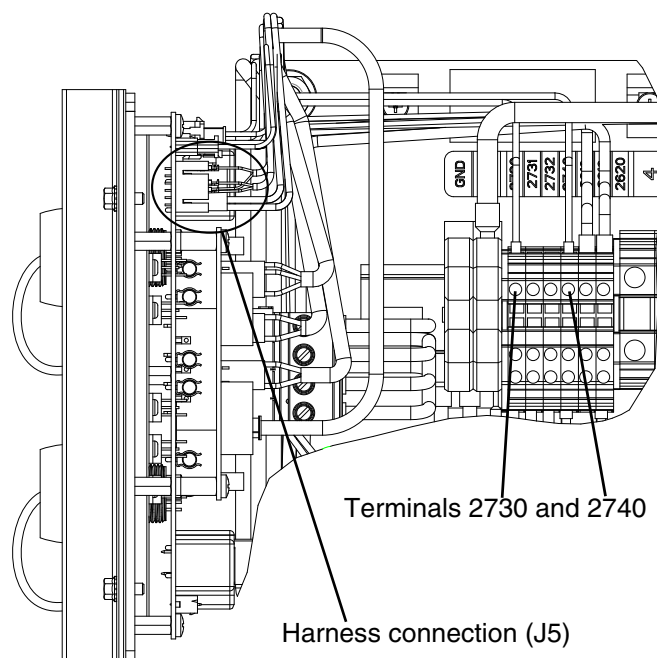

FIG. 3: Electronic Enclosure Connections
2. Remove the black input connector from the J5 slot on the MZLP1 board. See Figure 3.
4. Connect the red wire from Pin 1 on the harness to terminal 2730 and connect the blue wire from Pin 2 on the harness to terminal 2740 on the terminal block. See Figure 3.